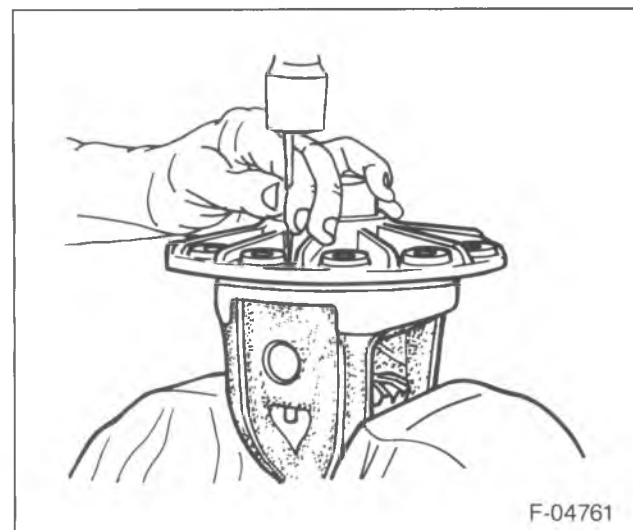

Figure 49—Removing the Lock Pin
12. Lock pin (29) from the differential using a hammer and a punch (figure 49).